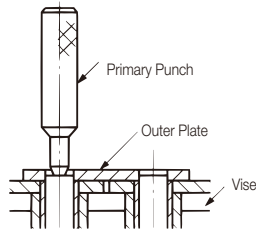

Fig. 14 Tapping Pin with Primary Punch
- 1) Using a primary punch suitable for the chain size (refer to the Tsubaki Drive Chain Accessories section in a separate catalog), place the punch on the head of the pin that was ground down and strike with a hammer. Be sure to strike the pins on the outer link alternately to remove them evenly and at the same time. Strike the pins until they are just about to release from the outer plate (Fig.14).